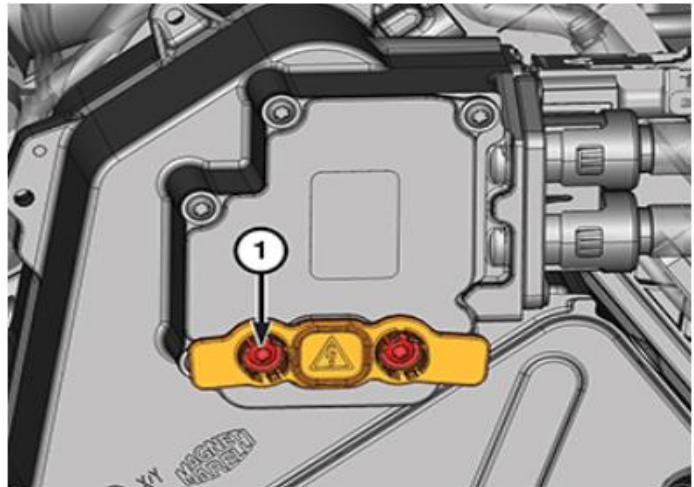

Figure 11 – Power Inverter Module
14. Loosen two captive screws (1) and remove the single High Voltage Inter-Lock (HVIL) connector from the Power Inverter Module (PIM) cover (Figure 11).